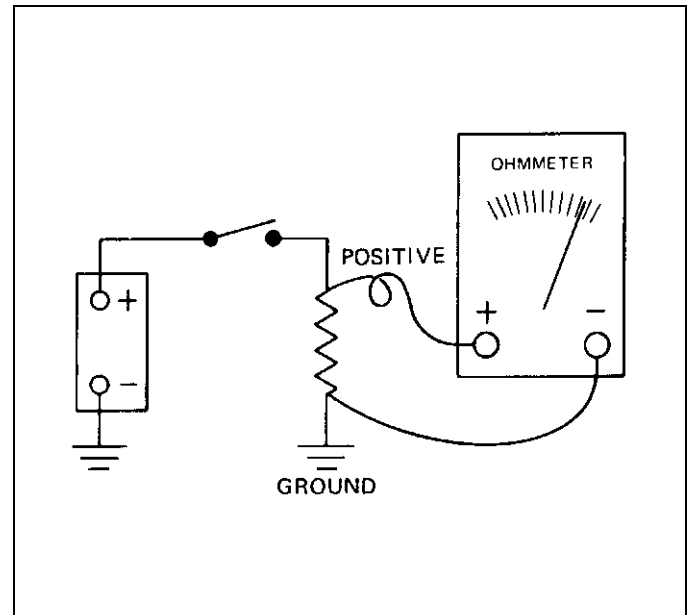

Figure 14-1 Ohmmeter Connections
- A volt-ohmmeter (YOM) rated at 20,000 ohms per volt. For proper connections, see Figure 14-1.